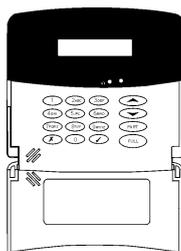

Figure B-32: LCD Programming Keypad
7. All registration and test functions, described in the following sections, are performed from the LCD programming keypad model no. 5200250 shown in Figure B- 32 (p. 115). Connect the programming keypad to the Programming Keypad connector.